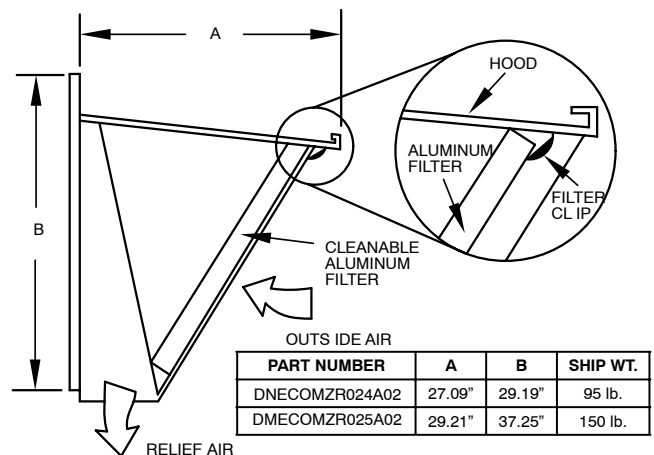

Fig. 3- Economizer Hood Detail
5. To install the filter, open the filter clips which are located underneath the hood top. Insert the aluminum filter into the bottom filter rack (hood divider). Push the filter into position past the open filter clips. Close the filter clips to lock the filter into place. See Fig. 3.